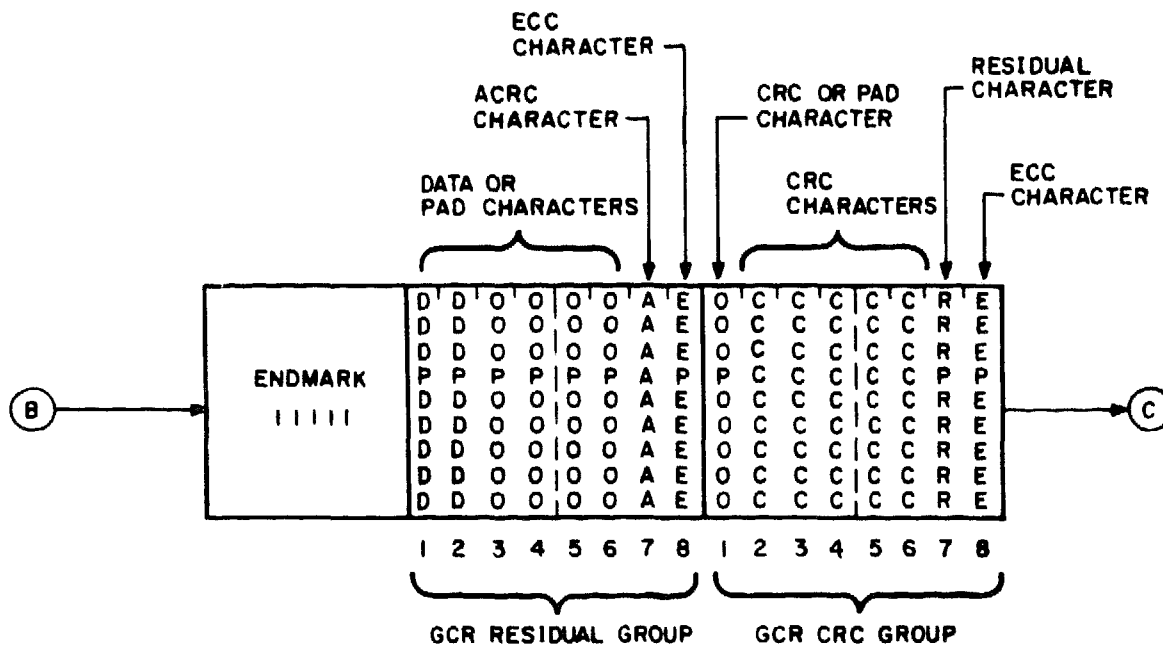

Figure 4-30C. DETAIL OF GCR TAPE FORMAT
- o END MARK (see Figure 4-30C) - A control signal separating the last full data group from the residual group.
- o Residual Group (see Figure 4-30C) - Contains the remaining data characters from the host, and pad characters if needed, to fill the first six positions in the group. The 7th character is the Auxiliary Cyclic Redundancy Check (ACRC); the 8th character is the Error Correcting Code (ECC) character.
- o Cyclic Redundancy Check (CRC) Group (see Figure 4-30C) - The first character is either a pad character or the CRC character. Positions 2 through 6 are occupied by the CRC character. The 7th position is occupied by the residual character and the 8th position is occupied by the ECC character.
- o MARK 2 (see Figure 4-30C) - A control signal separating data from control subgroups. When tape is moving forward, it marks the beginning of other control signals.